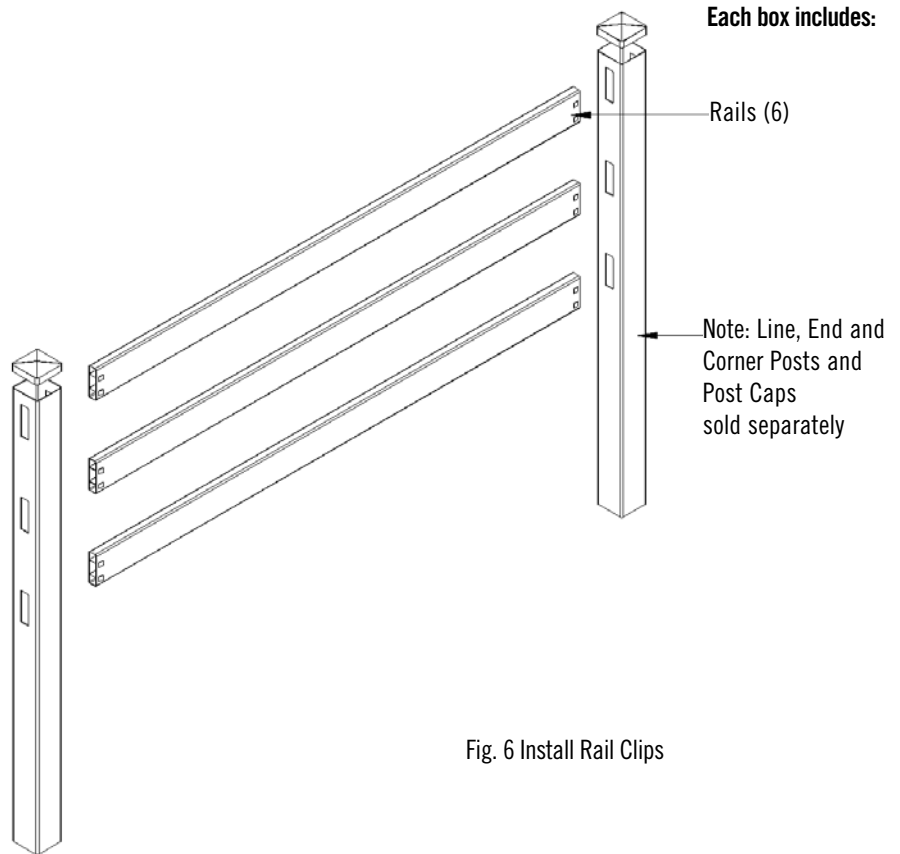

Fig. 6 Install Rail Clips
- Install Rails clips:** Insert supplied rail clips (Fig. 6) into both ends of the rails before inserting rails into posts. If trimming rails is required, drill a 1/2" hole at cut ends to accept the rail clip. (Fig. 6)